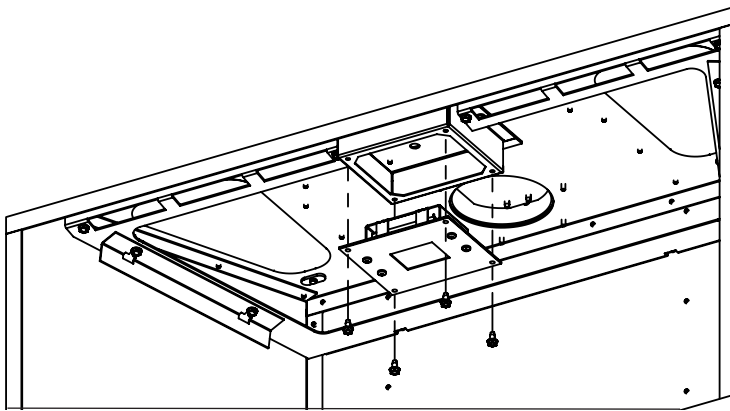

Figure 26: Top Light Removal
4. Remove the top light assembly by removing four (4) screws using a 5/16 socket (see Figure 26).